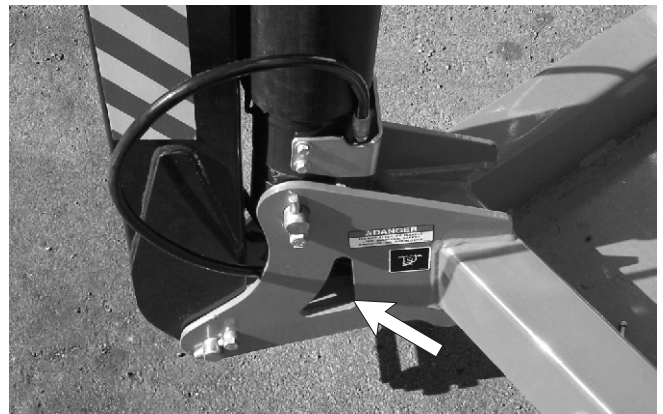

Figure 10.4 - Tie Down Lugs
5. Tie down only with the 4 tie down lugs (see Figure 10.4).